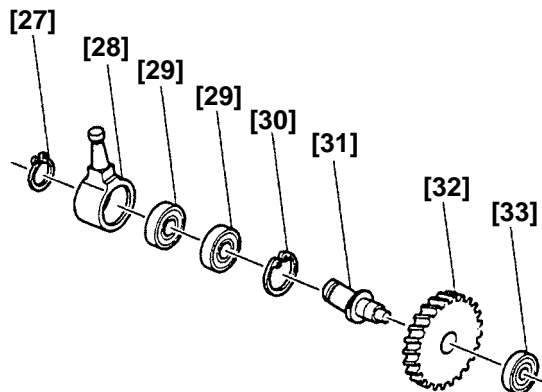

Fig. 5
(4) Removal of Second Shaft (B) [31] (Fig. 5)